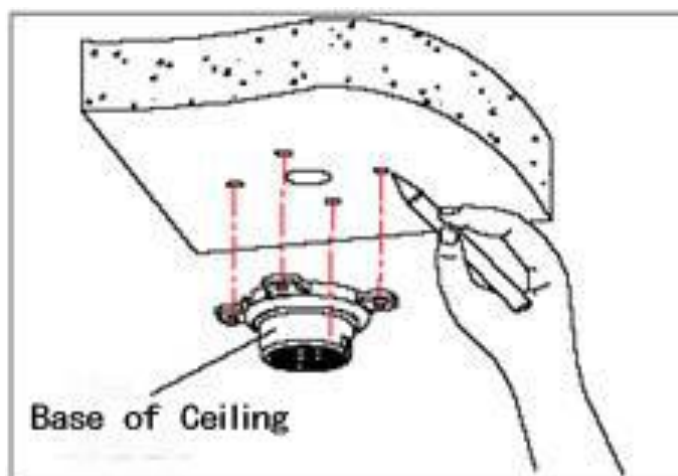

Fig 2.10
a. As shown in fig 2.10, with the installation holes in the base of ceiling as pattern, draw punched locations in the ceiling and punch to install M6 expansion bolt.